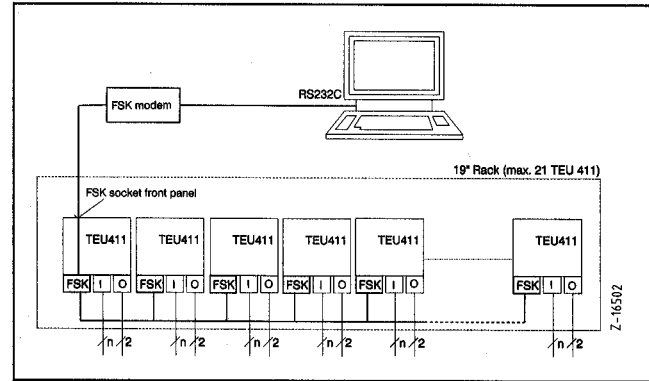

Fig. 13 Transmitter with FSK bus
- Fig. 13: for transmitter (19" plug-in card) with FSK bus. The input and output signal functions of the transmitters are not affected and remain electrically isolated.